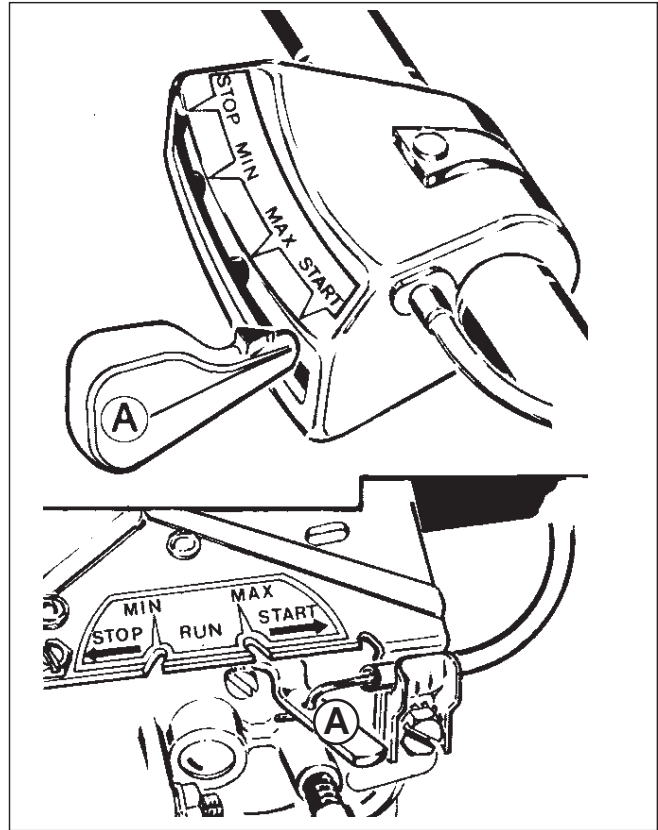

Fig. 6
- Check remote control assy for proper adjustment with the lever **A** in choke or start position. The carburettor choke should be fully closed (Fig 6).